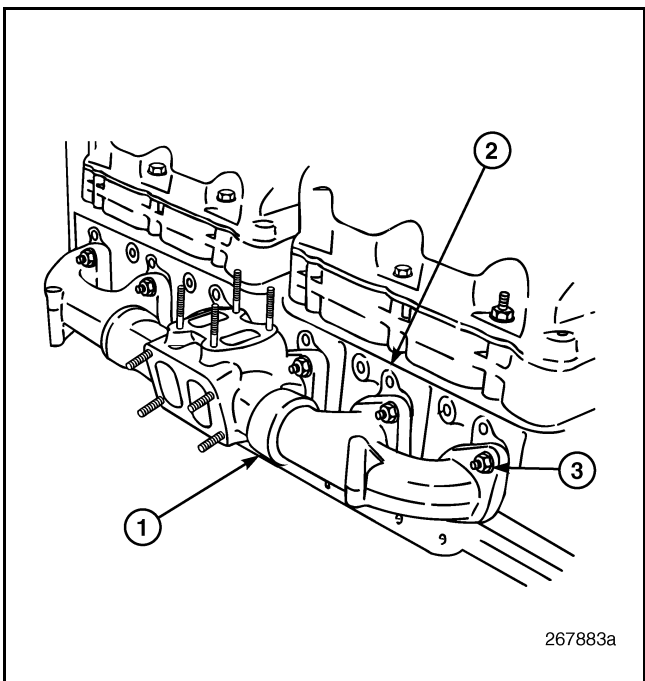

Figure 157 — Exhaust Manifold Removal
1. Support the exhaust manifold and remove the 12 mounting nuts (Figure 157) securing the manifold to cylinder heads.